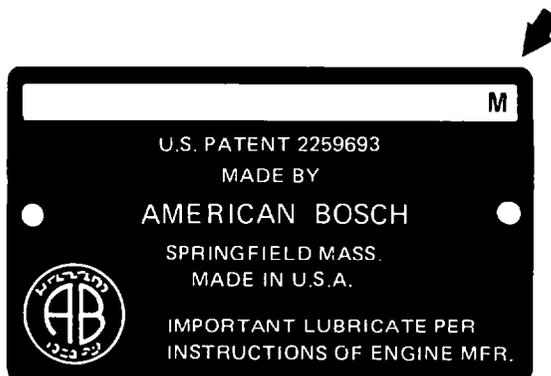

Fig. 135 — Lettering Governor Nameplate
- c. Stamp the letter “M” on the governor nameplate as indicated in fig. 135.
- f. Stamp the letter “M” on the governor nameplate as indicated in fig. 135.